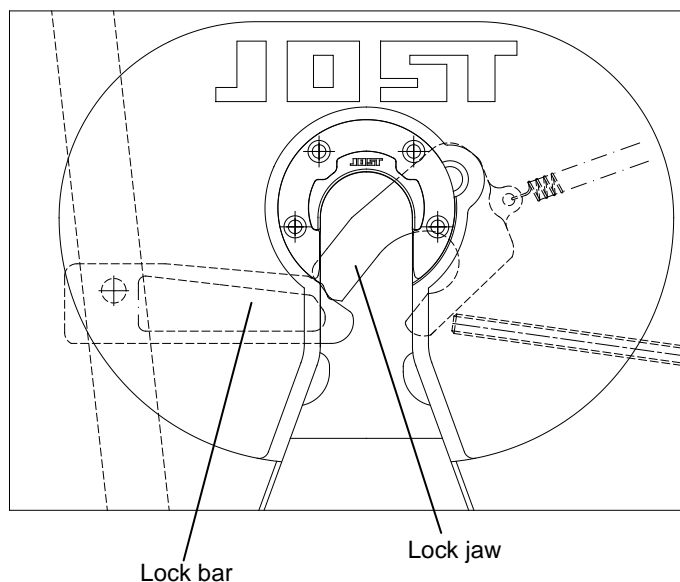

FIGURE 4
4. The release arm is held open by the lock bar resting against the open lock jaw (see figure 4).